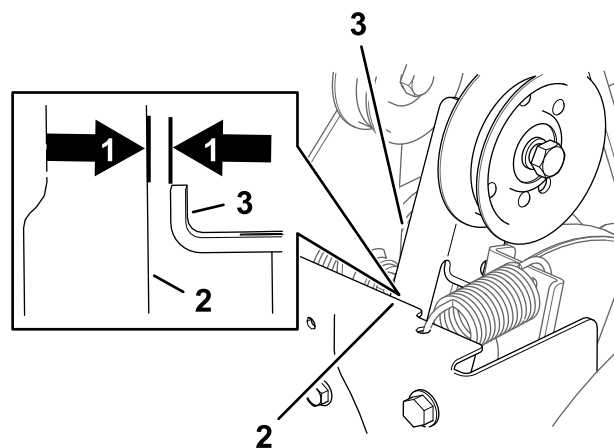

Figure 39
2. With the broom drive lever disengaged, ensure that the gap between the broom clutch arm and the frame of the machine is 1.5 mm (1/16 inch) as shown in Figure 39.